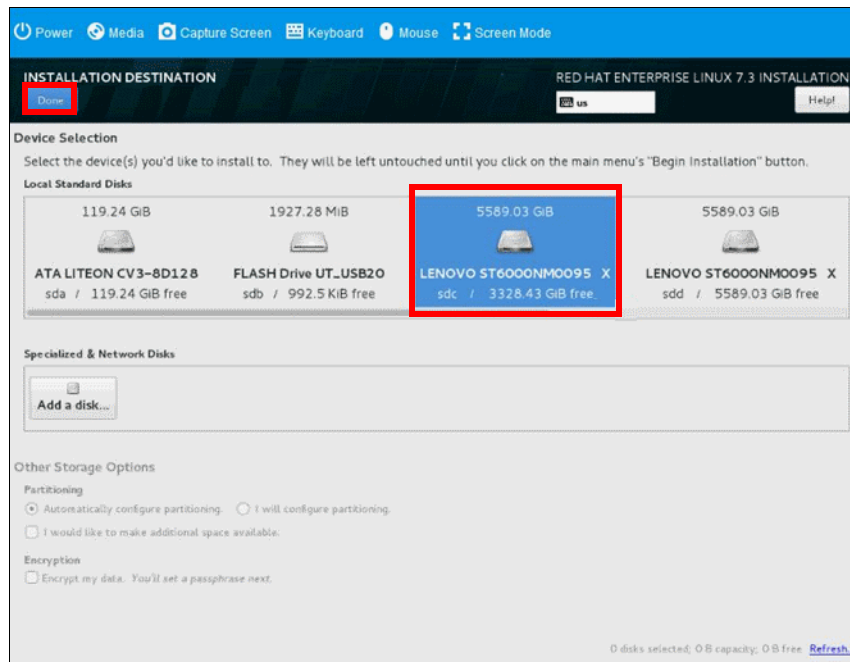

Figure 6-58 Installation destination
13. If the driver ISO has loaded correctly then the installation process will see the local drives available to install to, as shown in Figure 6-58. Select the drive or device where the OS is to be installed and click **Done**.